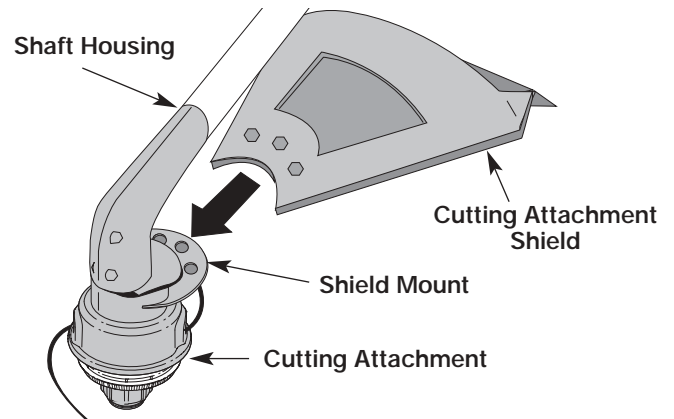

Fig. 3
1. Slide the cutting attachment shield into the shield mount on the cutting attachment. Align the screw holes in the shield with the holes in the cutting attachment (Fig. 3).